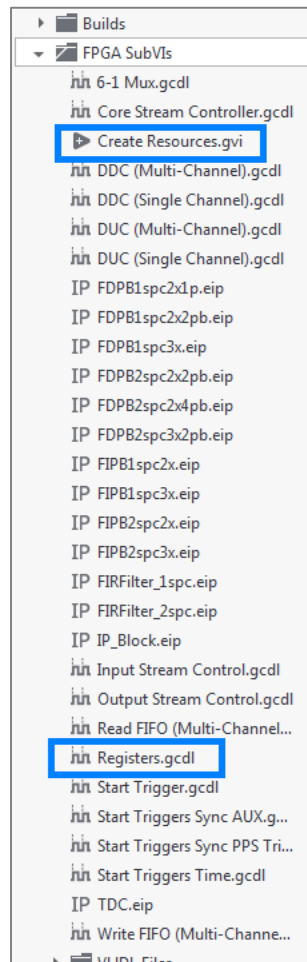

Figure 29: Files to Copy
3. Copy two VIs from the new project must be copied into the original project as shown in Figure 29.